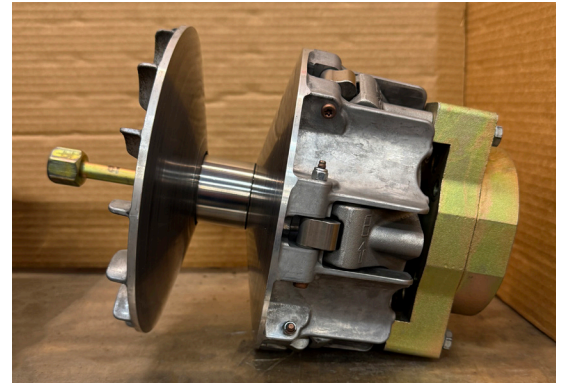

Fig 3
3. Grease the threads of the smaller diameter clutch puller (PCP-19, included in the EZCST2 kit). Also, add a dab of grease onto the end of the puller. Thread the puller into the crank side of the clutch until it touches the EZCST2 plate. See figure 3.